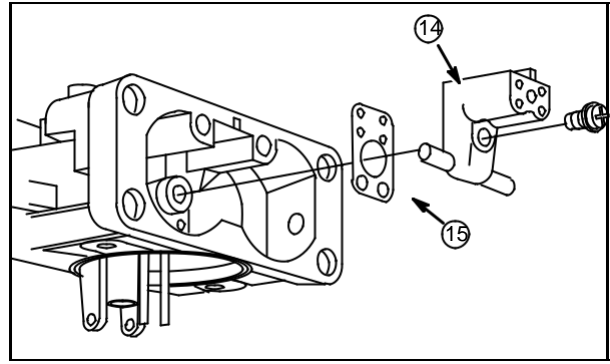

Fig. 121
Remove nozzle body (14), Fig. 121. Discard gasket (15).